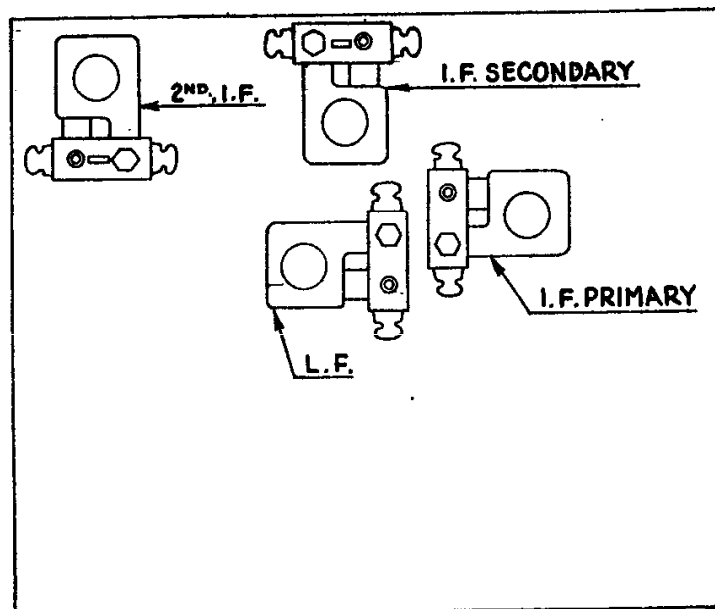

Fig. 40. Models 6, 9, and 12 (Code 122)
Next adjust the secondary and primary I.F. condensers. These are the right-hand ones on Fig. 40.
**Low Frequency Adjustment.** Now tune the Receiver and signal generator to 700 K.C., and adjust the condenser (LF) on Fig. 40. During this operation the tuning condenser must be shifted and the compensator must be adjusted to bring in the maximum signal.